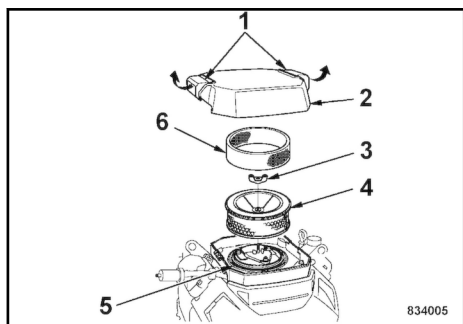

Fig. 164
1. Unscrew the air filter cover locking nut (1) ↪ Fig. 164 and remove the cover (2).
2. Unscrew the wing nut (3).
3. Take out the paper (4) and foam rubber inserts (6).